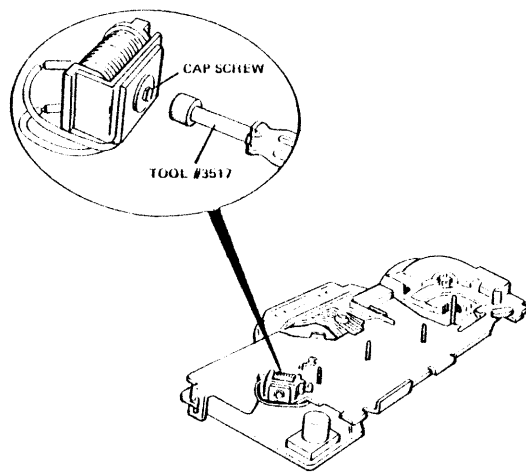

FIGURE 4-19
3. Replace clapper solenoid assembly (see Figure 4-19). Be sure to position it with the solenoid frame placed against the tang with the screw hole. Insert cap screw and temporarily tighten with the midget nut driver (Tool #3517).